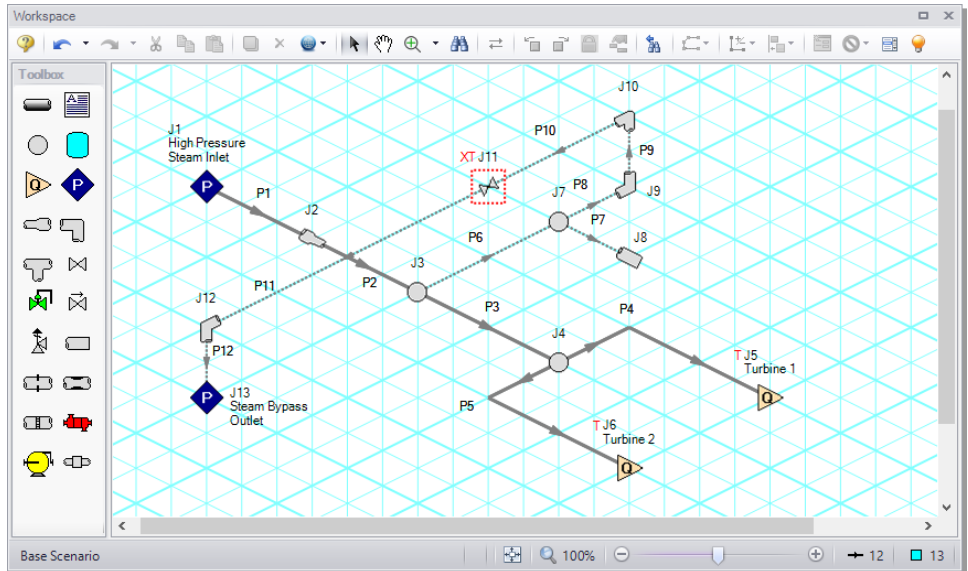

Figure 4.1 The isometric layout with the grid shown
3. Place the junctions as shown in Figure 4.1